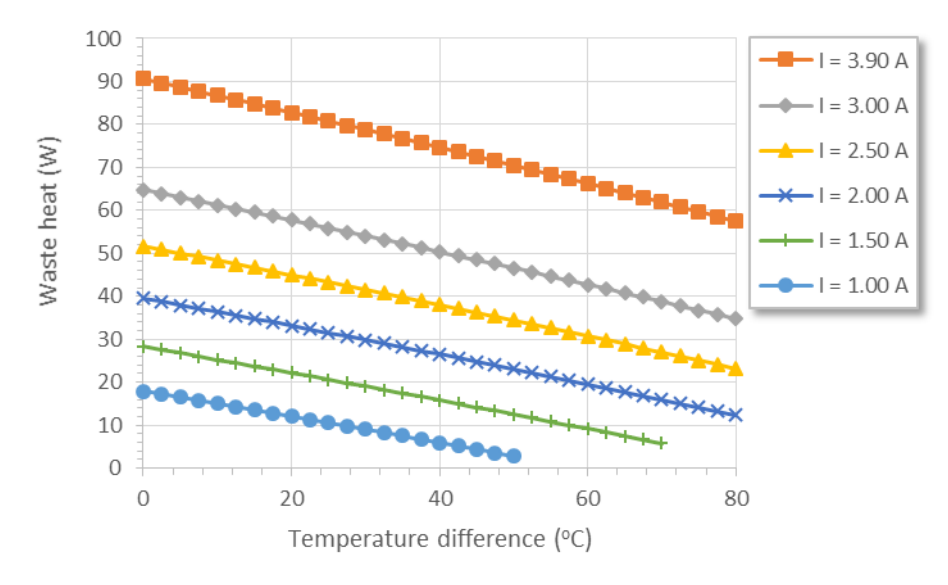

Figure 2: Waste heat (Q_h) vs Temperature difference
Figure 2 shows the waste heat, Q_h , against the temperature difference across the module at a range of different currents. This graph shows the amount of heat that must be dissipated from the hot side of the module. The waste heat is approximately given by the sum of the heat removed (P_c) and the electrical power into the module (IV):